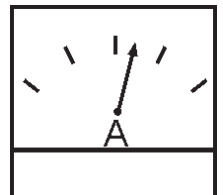

Figure 53. Ammeter (Load)
13. Observe the generator's ammeter (Figure 53) and verify it reads the anticipated amount of current with respect to the load. The ammeter will only display a current reading if a load is in use.